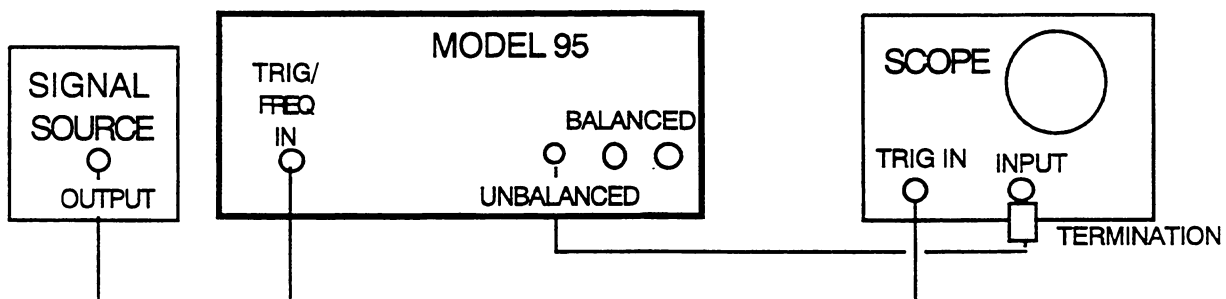

Figure 2-4. Second Setup
9. Using the keypad (39) press 5 and ENTER to change the amplitude back to 5Vpp.
10. **Trigger** Press the MODE key (22) until the TRIG indicator (23) lights. The internal trigger source is the default - trigger frequency is 100 Hz. Scope displays a 50 kHz sine wave triggered at a 100 Hz rate.
11. Connect the signal source to the TRIG/FREQ IN (12) connector of the Model 95 as shown in figure 2-4. Sync the scope from the signal source.